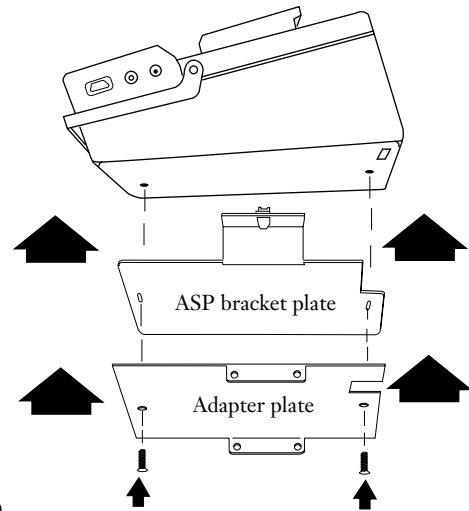

Figure 9
- e) Align the bracket plate provided with the ASP with the power supply adapter bracket. Secure the “sandwiched” plates to the bottom of the splicer with the two slotted screws removed in step 5.5 d) (Figures 9 and 10).